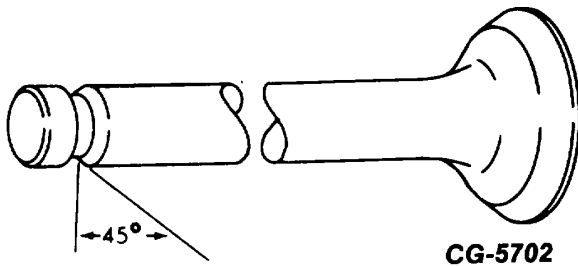

Figure 35. - Valve Keeper Groove
4. With a valve spring compressor, compress the spring far enough to install the valve locks in the keeper groove (Fig.35).
NOTE: Roto coil is equipped with an oil seal, the lower valve keeper groove (on valve) must be cut at a 45 degree angle as shown in Figure 35